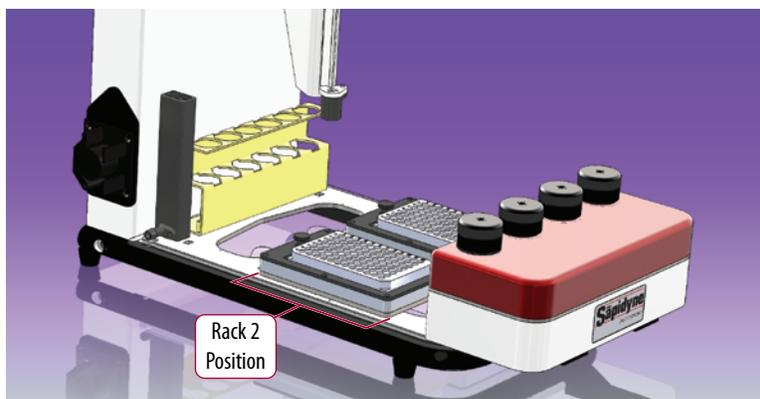

Figure 1. Microtiter base plate in the correct position.
- Place the microtiter base plate on the autosampler so that the adjustment knobs are closest to the wash station and it sits where Rack 2 would normally fit (**Figure 1**).